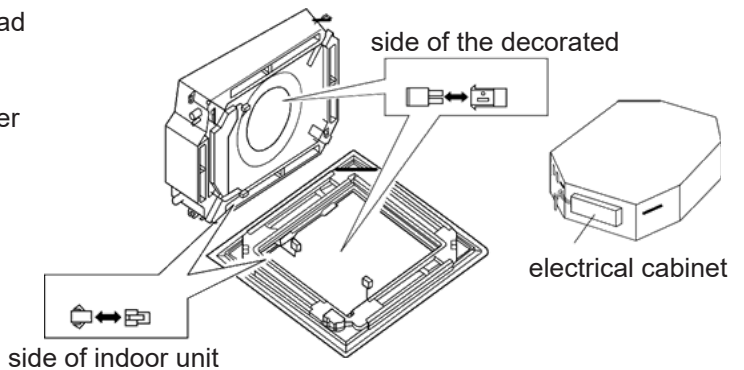

Fig.3
- a. Connect it to the connector of the wind deflector motor lead on the decorated panel (Fig. 3);